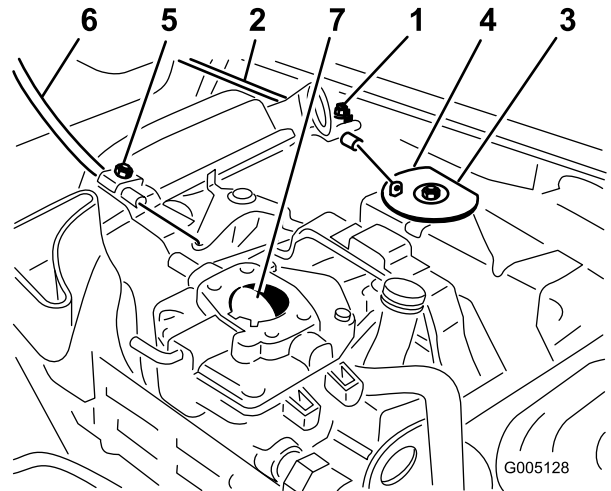

Figure 48
1. Loosen the cable clamp screw securing the cable to the engine (Figure 48).
3. Pull firmly on the throttle cable until the back of the swivel contacts the stop (Figure 48).
3. Pull firmly on the choke cable until the choke butterfly is completely closed, then tighten the cable clamp screw (Figure 48).